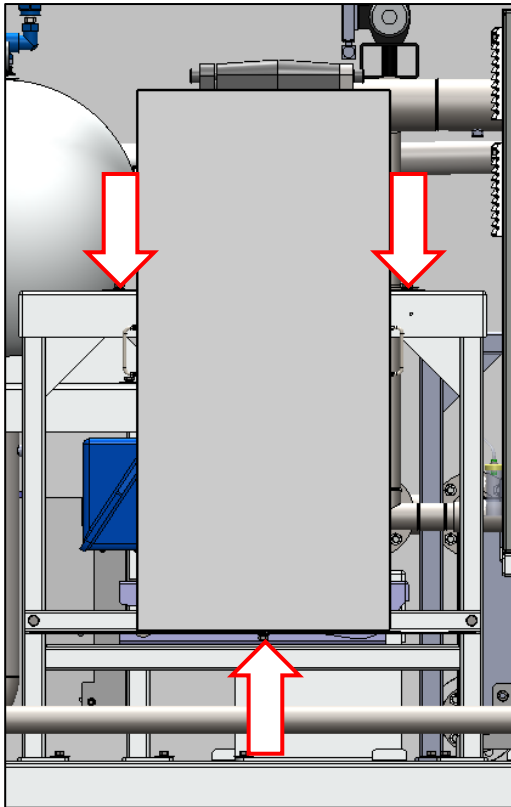

FIGURE 1.7-1: BELT SHROUD MOUNT BOLTS
- 1) Remove the belt guard shroud by removing the three bolts indicated in Figure 1.7-1. Slide the guard towards you, out from under the table. It can then be lifted and set aside out of the way. *The guard is heavy and may require two people to lift.*